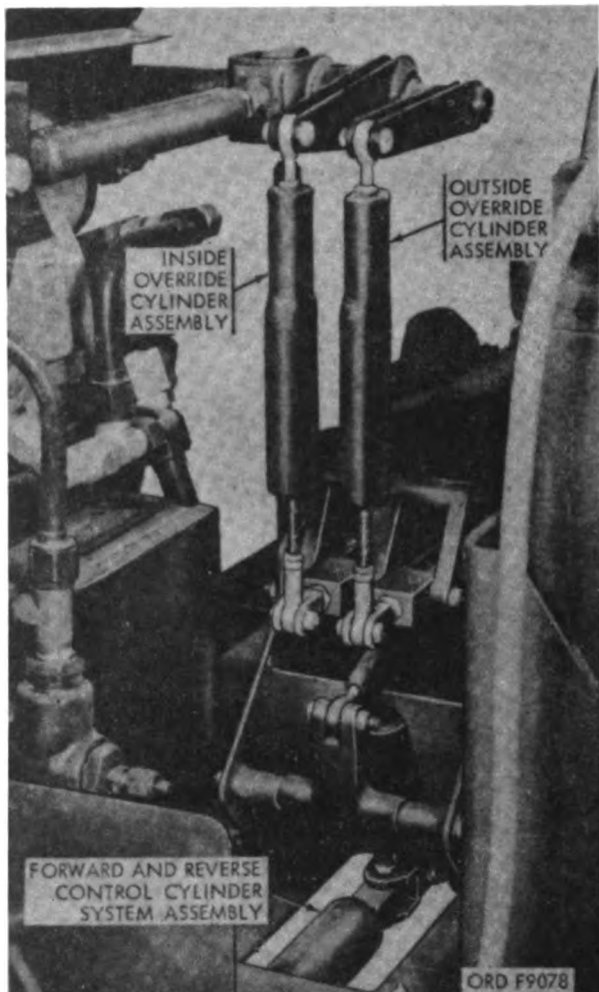

Figure 164. Override cylinder assemblies and control cylinder system assembly.
- (4) If right wheel creeps, lengthen or shorten the inside override cylinder assembly (fig. 164) by removing one bolt, washer, and safety nut and loosen the lock nut on end rod. This allows the end rod to be turned in either direction to shorten or lengthen the cylinder assembly. Adjust the end rod in or out until the wheel stops turning when the linkage is reassembled. This will be its neutral position. Tighten the lock nut, assemble the linkage, and secure with hexagon head bolt, flat washer, and safety nut.
- (1) If control stick moves too far forward or backward, lengthen or shorten control cylinder system assembly (fig. 164) as in *g*(4) above.